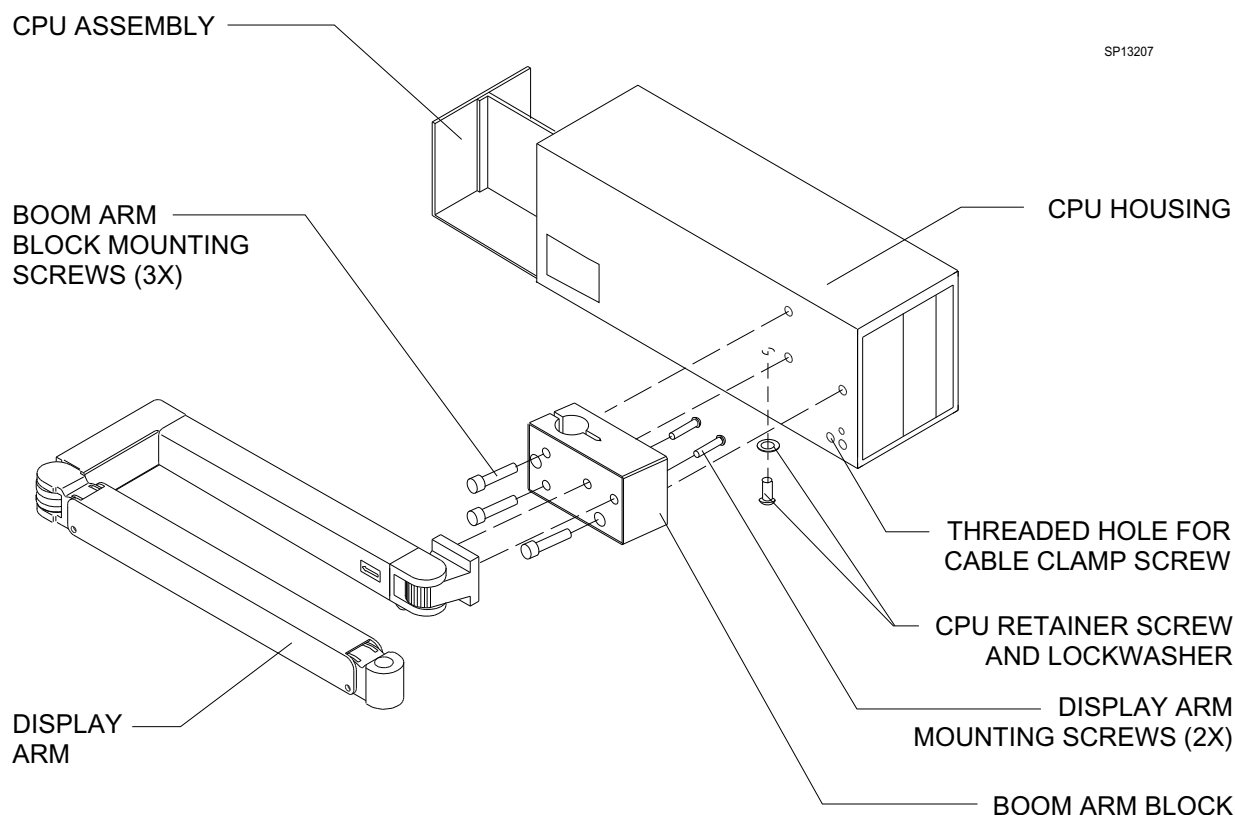

Figure 7: DISPLAY ARM INSTALLATION ON OUTBOARD ORDM
26. If the display arm was not pre-assembled to the boom arm block, attach the display arm to the block with two $\frac{3}{8}$ -24 x $1\frac{1}{2}$ in. socket head cap screws (P/N HW01101). See Figure 7.
37. Attach the cables to the adapter plate using a $\frac{3}{8}$ in. plastic cable clamp (P/N 4112300) and 6-32 x $\frac{3}{8}$ in. button head socket screw (P/N HW09000). (Ref. Figure 7.)